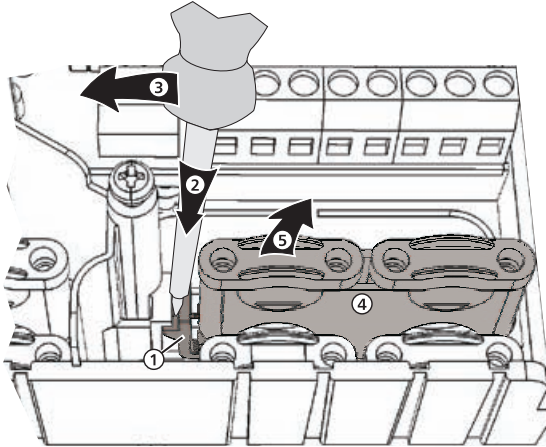

Fig. 5: Removing the right plastic link
1. Insert a flat-blade screwdriver under the right plastic link between the casing and the spring clamp ①, ② (Fig. 5).
2. Carefully push the flat-blade screwdriver to the left ③. Lever the spring clamp ① to the right until the plastic link ④ is free.
3. Pull out the plastic link upwards by hand ⑤.